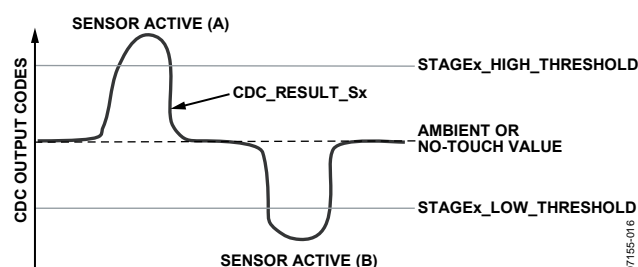

Figure 17. Sensor Activation Thresholds
On-chip threshold limits are used to determine when sensor activation occurs. Figure 17 shows the change in CDC\_RESULT\_Sx that occurs when a user activates a sensor. The sensor is deemed to be active only when the value of CDC\_RESULT\_Sx is either greater than the value of STAGEx\_HIGH\_THRESHOLD or less than the value of STAGEx\_LOW\_THRESHOLD.
In Figure 17, two different sensor activations are shown. Sensor Activate (A) occurs when a sensor is connected to the positive input of the converter. In this case, when a user activates the sensor, there is an increase in the CDC code, and the value of CDC\_RESULT\_Sx exceeds the value of STAGEx\_HIGH\_THRESHOLD. Sensor Active (B) occurs when the sensor is connected to the negative input of the converter. In this case, when a user activates the sensor, there is a decrease in the CDC code, and the value of CDC\_RESULT\_Sx becomes less than the value of STAGEx\_LOW\_THRESHOLD.